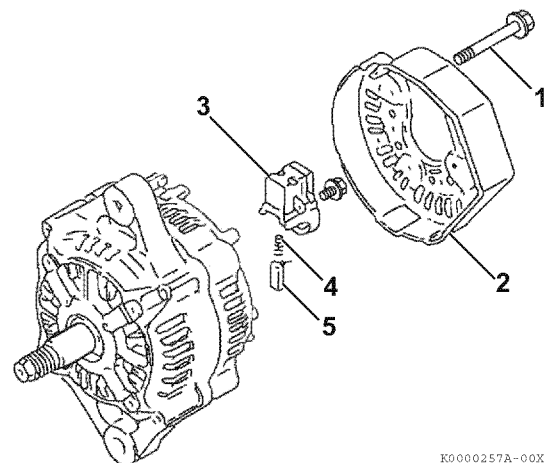

Figure 11-6
2. Remove the three bolts (Figure 11-6, (1)) retaining the rear cover (Figure 11-6, (2)) to the rear frame assembly.
3. Remove the brush holder (**Figure 11-6, (3)**). Remove the brush springs (**Figure 11-6, (4)**) and brushes (**Figure 11-6, (5)**).